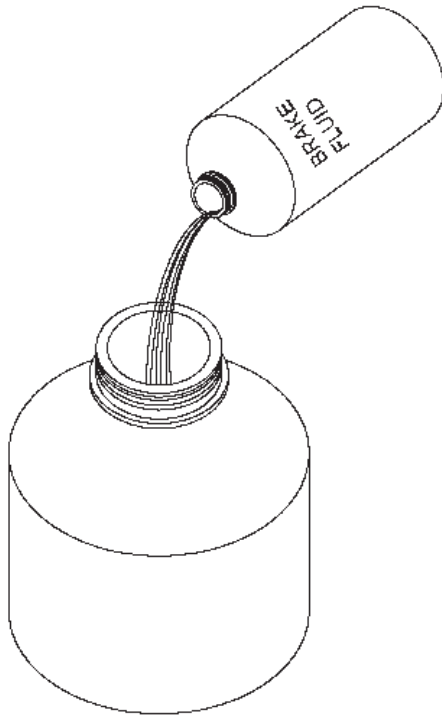

Figure 1.
1. Fill the 40 oz (1200 ml) reservoir with vehicle manufacturer's recommended brake fluid, to a level exceeding the amount of fluid to be bled (Fig 1), and install the lid. Or, remove the lid from a standard new 12 oz. or 32 oz. bottle of brake fluid, and thread on the appropriate size Adapter Cap.